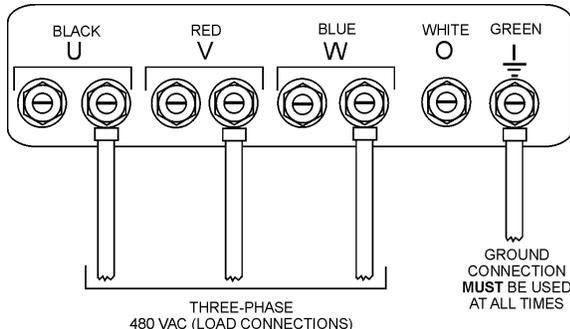

Figure 24. UVW Terminal Lugs 3Ø-480V Connections
2. Connect the load wires to the UVW terminals as shown in Figure 24.